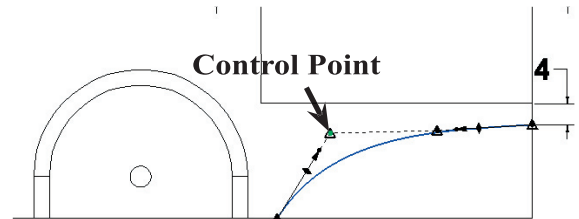
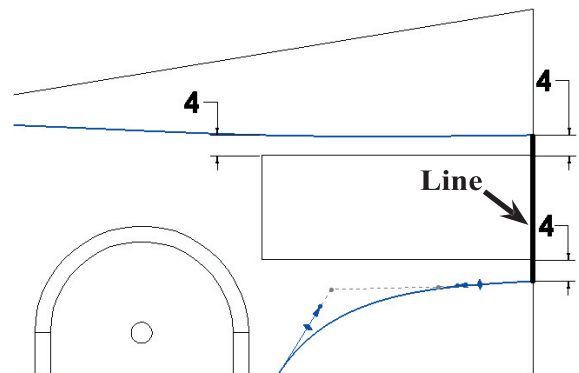

Fig. 28
Fig. 29
Step 19. Click a gray Control Point to activate it and the Control Point turns yellow. Move the yellow Control Point to adjust spline. Keep the spline inside the blank, **Fig. 28**.
Step 20. Click **Line**  (L) on the Sketch toolbar.
Step 21. Draw a line to **connect the ends of the splines**, **Fig. 29**. Press the **Escape** key to unselect Line.